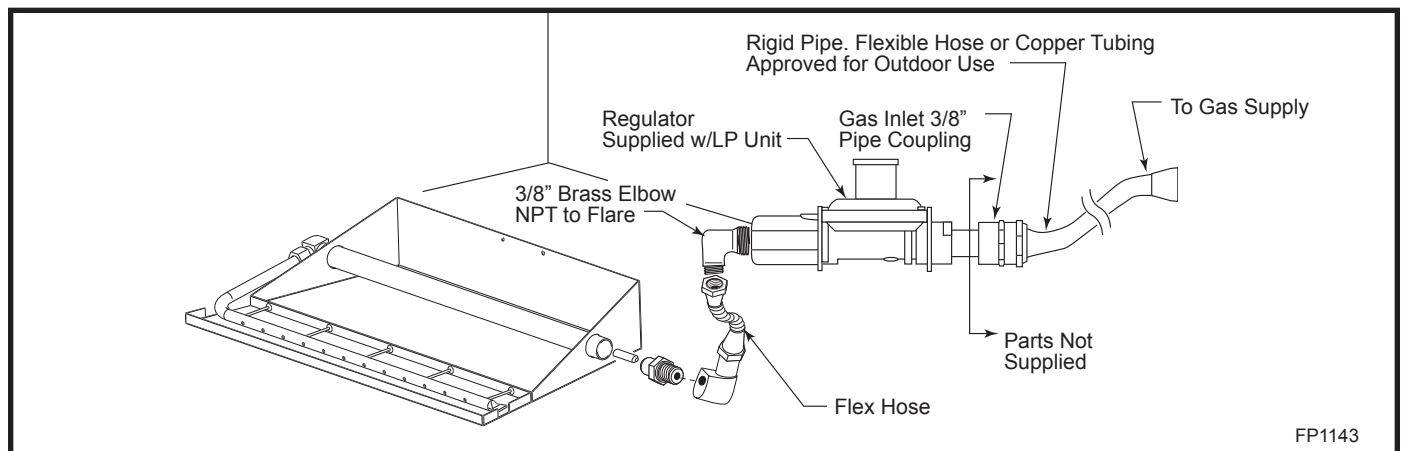

Fig. 3 LP gas connection.
**NOTE:** Your gas log set is assembled at the factory to be installed in a fireplace plumbed with the gas on the right side (facing). If your fireplace is plumbed with the gas on the left side remove fittings on right and left side of straight burner tube and switch sides, at the same time put front burner tube on right side with the elbow fitting (Refer to Figs. 3,4).